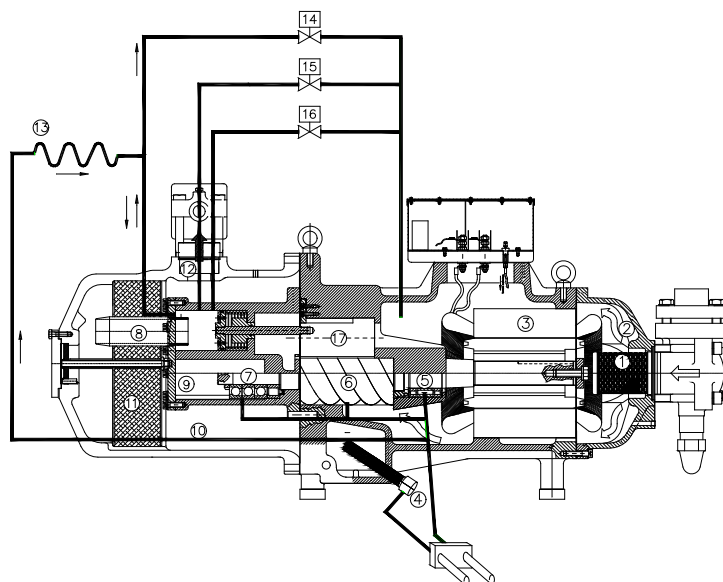

Fig. 17: step capacity control oil circuit
The cylindrical chambers that house the screw rotors are fitted with a longitudinal port, whose connection with the suction side is regulated by the position of the slide valve (17), see Fig. 17.
In the configuration with 4 steps the slide valve automatically returns to the position of minimum capacity after the compressor stops. In fact, due to the pressure difference the oil can flow out of the cylinder to the crankcase through the pipe marked by number 20, see Fig. 17. Therefore the compressor can start again at the minimum capacity.